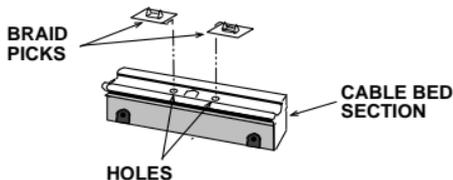

Figure 2-3. Installing the Braid Picks
2. Insert the braid picks into the holes in the cable bed as shown in Figure 2-3.